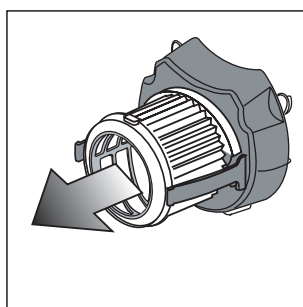

Fig. 26
- Remove the washable HEPA filter* (fig. 26).